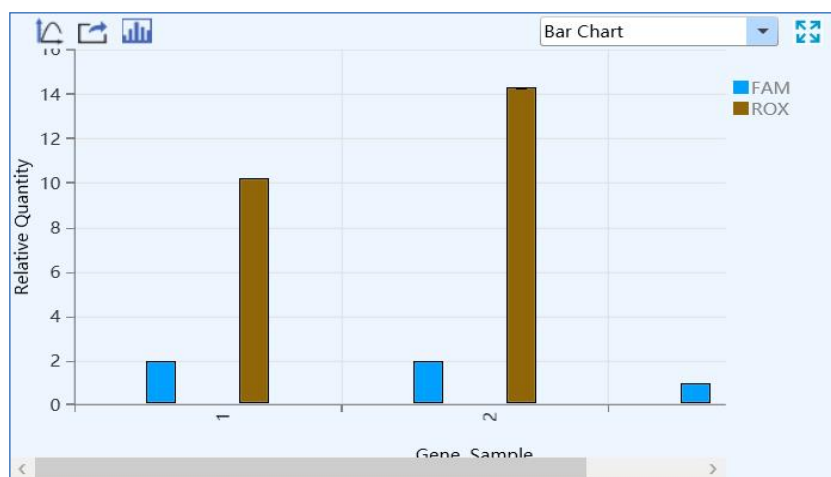

Figure D-11.1. Rel Quant Analysis Interface - Bar Chart Function Module
**I. Bar Chart:** display the relative ratio relationship between target gene & sample and reference gene & sample, as shown in figure D-11.1.